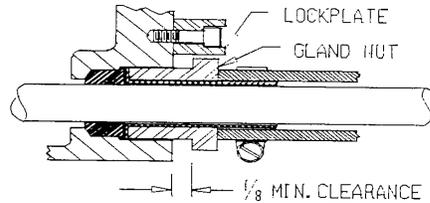
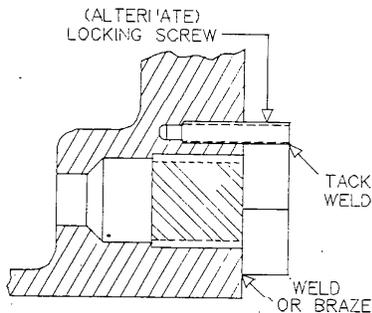

FIGURE 2
FIGURE 3
- (WEEKLY) 1. () ALL LEAD ENTRANCES (PACKING GLANDS) ARE ASSEMBLED SO THAT THE CABLE JACKET PENETRATES INTO THE ENCLOSURE AND WHEN TIGHTENED, A 1/8" MINIMUM CLEARANCE REMAINS BETWEEN THE PACKING NUT AND STUFFING BOX (FIGURE 2).
- (WEEKLY) 2. () ALL PACKING NUTS AND STUFFING BOXES ARE SECURED FROM LOOSENING BY A LOCKING SCREW, WIRE, OR OTHER MEANS (FIGURE 2). ALL UNUSED LEAD ENTRANCES ARE CLOSED WITH METAL PLUGS WHICH ARE SECURED IN PLACE BY SPOT WELDING, BRAZING, OR EQUIVALENT (FIGURE 3).
- (WEEKLY) 3. () HEADLIGHT GLANDS ARE SEALED AND ASSEMBLED SO THAT THE CABLE JACKET PENETRATES INTO THE ENCLOSURE AND WHEN TIGHTENED, A 1/8 INCH MINIMUM CLEARANCE REMAINS BETWEEN PACKING NUT AND THE STUFFING BOX. (FIGURE 2)
- (WEEKLY) 4. () ALL UNUSED LEAD ENTRANCES ARE CLOSED WITH METAL PLUGS WHICH ARE SECURED IN PLACE BY SPOTWELDING, BRAZING, OR EQUIVALENT (FIGURE 3).
- (WEEKLY) 2. () "ALTERNATOR HOUSING GLANDS" ARE SEALED AND ASSEMBLED SO THAT THE CABLE JACKET PENETRATES INTO THE ENCLOSURE AND WHEN TIGHTENED, A 1/8 INCH MINIMUM CLEARANCE REMAINS BETWEEN PACKING NUT AND THE STUFFING BOX. (FIGURE 2)